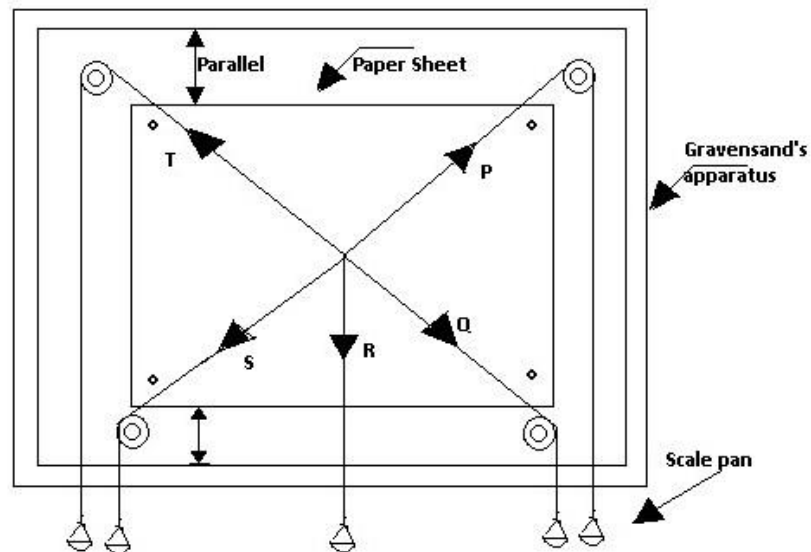

Fig. 2.1
Refer to fig. 2.1
4. Attach pans to the free ends of the threads as shown in Fig. 2.1.